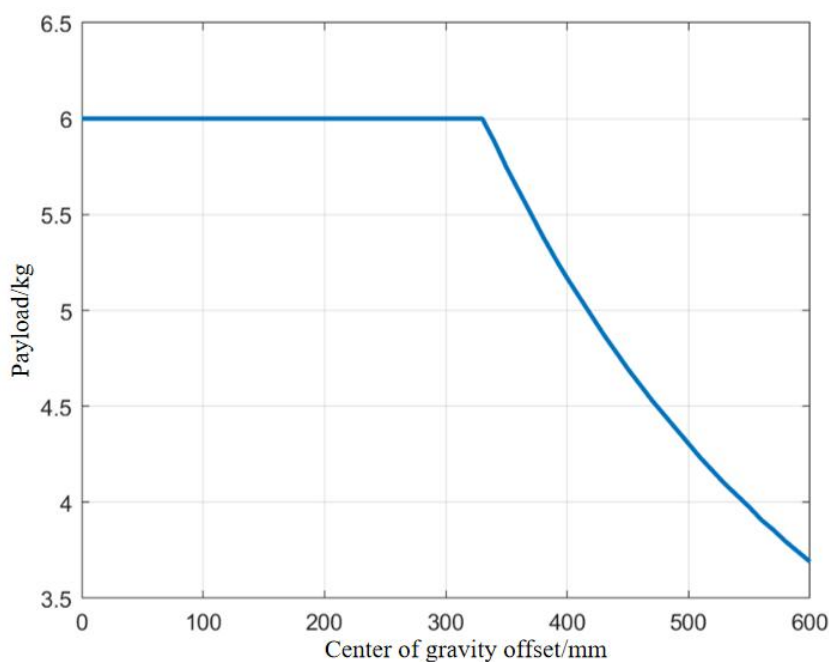

Figure B-3 G6 payload and Center of Gravity Offset curves
- The relationship curve between the payload of the G6 collaborative robot and the payload center of gravity offset is shown in Figure B-3.